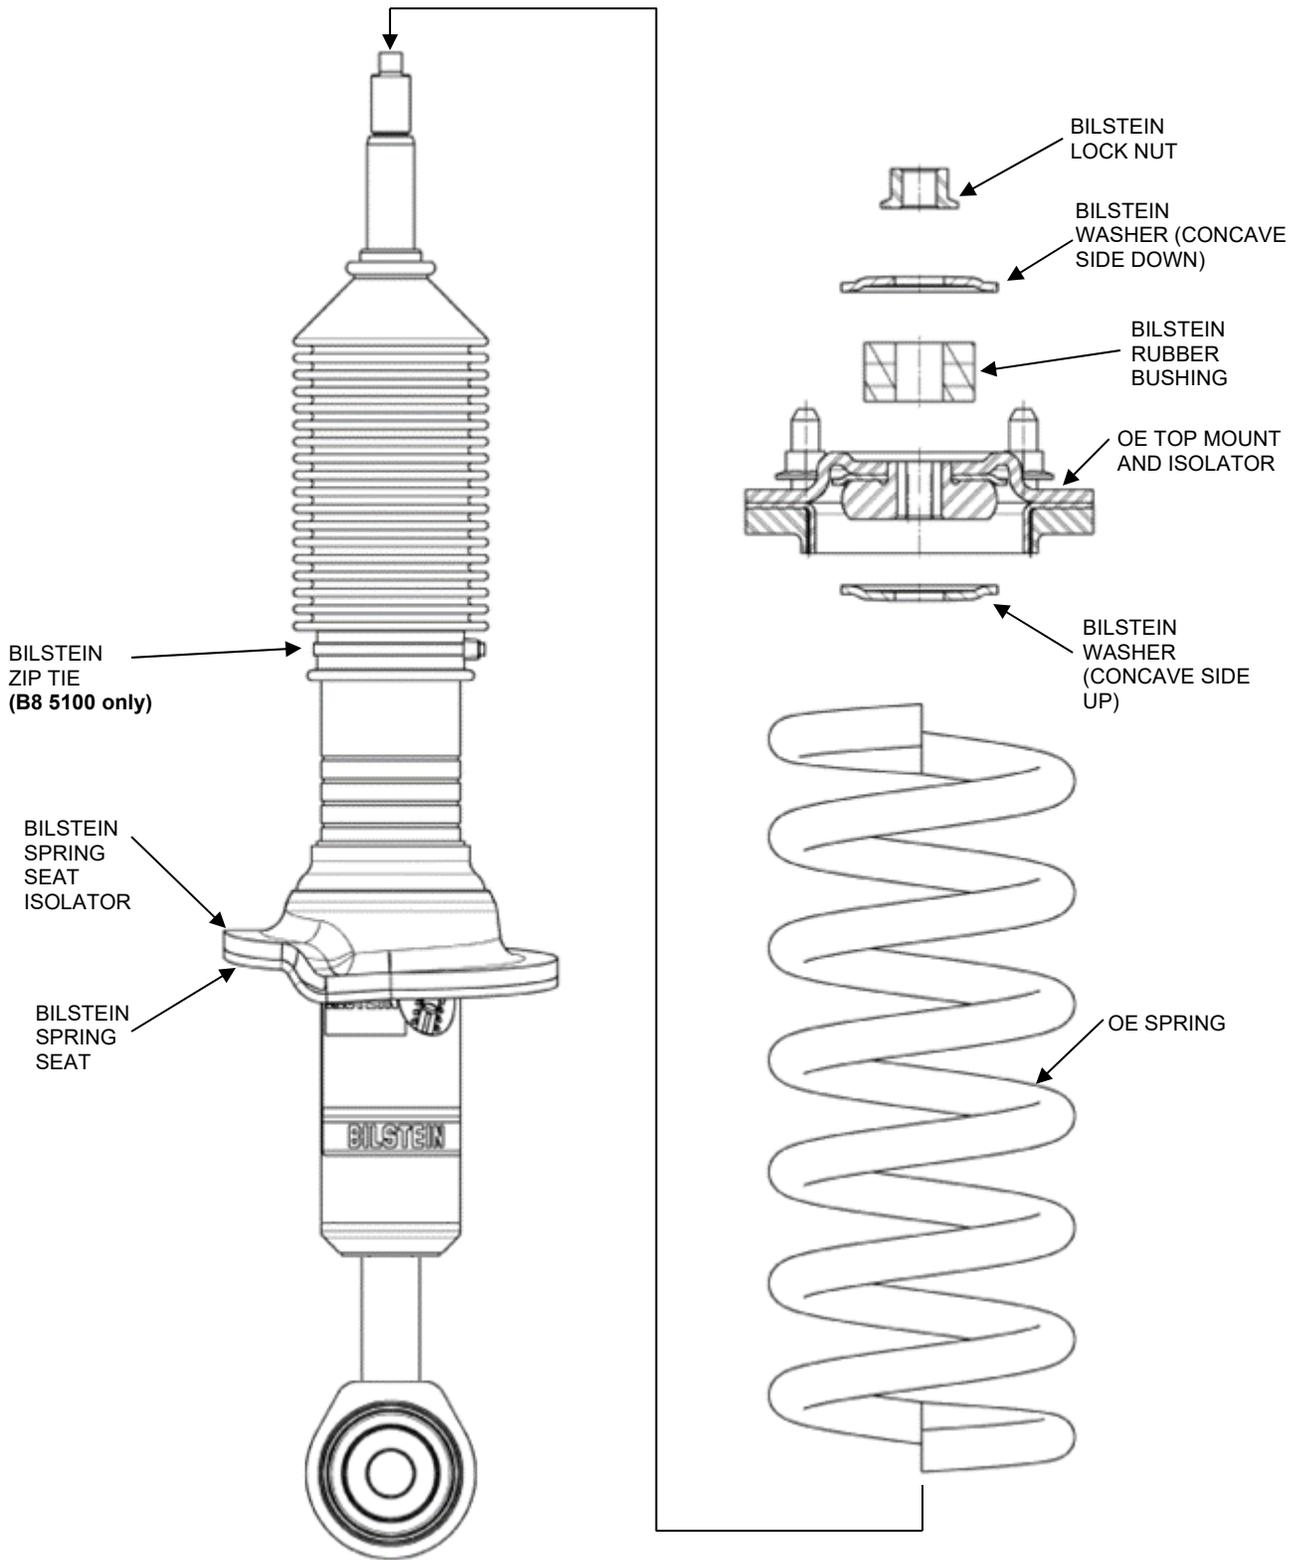

Figure 6 (B8 5100 is depicted)
**[Refer to Figure 6 on page 7 for steps L-P]**